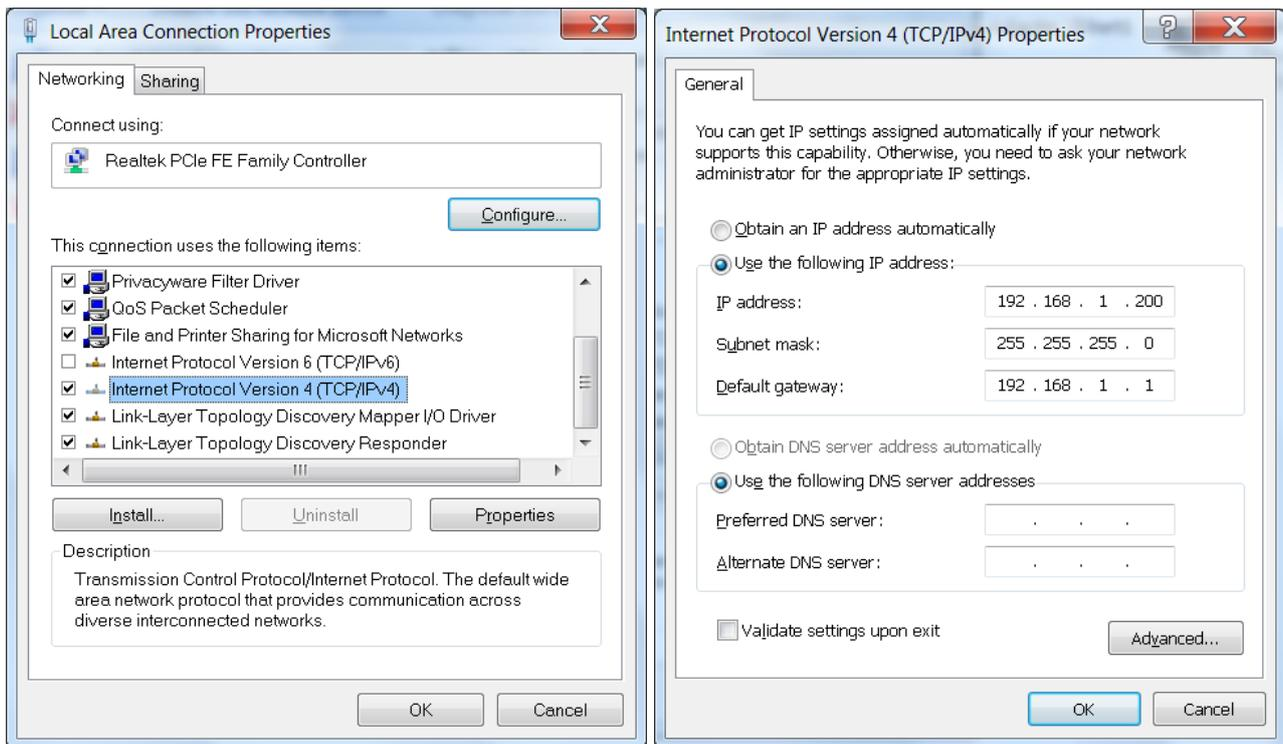

Figure 2.4 Setting up PC computer network parameters
2. In the list of available protocols (Figure 2.4 left) locate "**Internet Protocol Version 4 (TCP/IPv4)**". Select it and then click **Properties**.
3. In dialog box (Figure 2.4 right) specify: